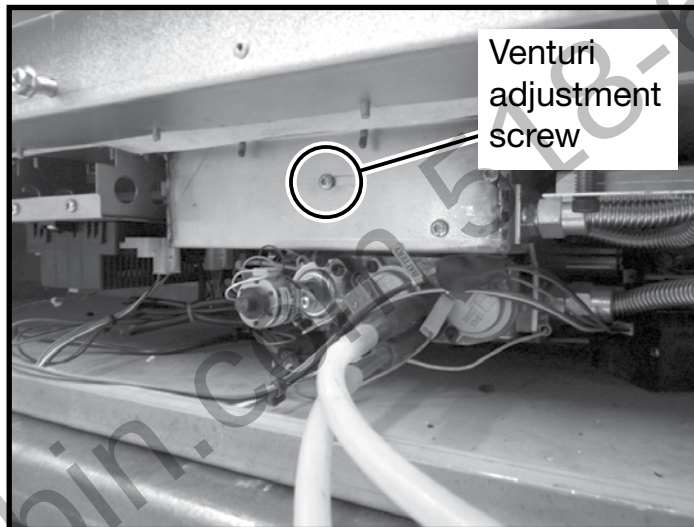

Figure 33: Gas valve location.
1. Remove window surround and locate the valve as seen in Figure 33.